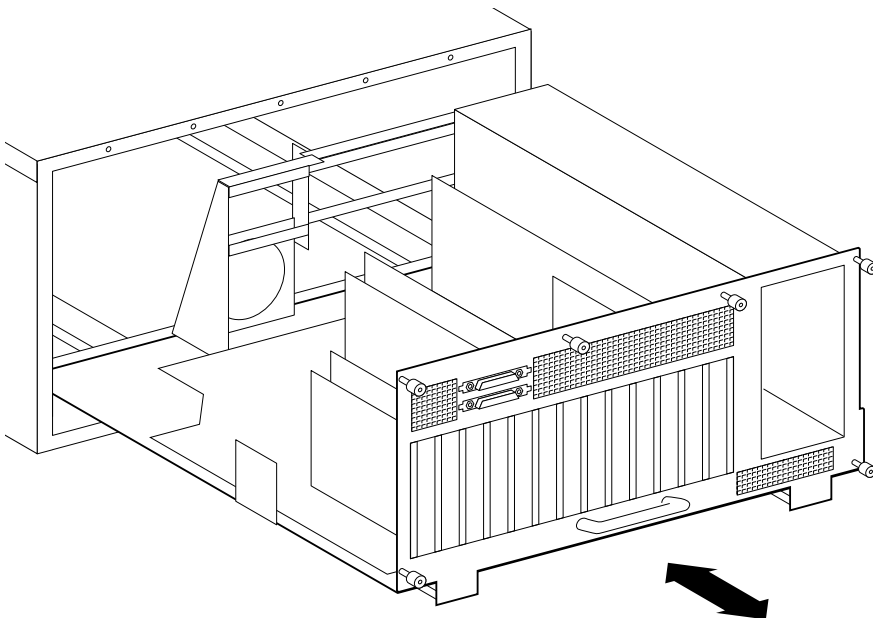

Figure B-3. Pulling the system backplane carrier out of the cabinet
12. Carefully pull the system backplane carrier out of the cabinet (see Figure B-3).